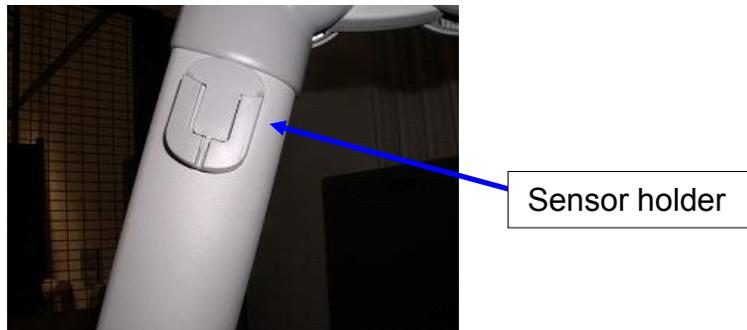

Figure 16
1. Attach the sensor holder to the articulating arm by peeling off the tab and exposing the sticky tape (see Figure 16 on page 15).